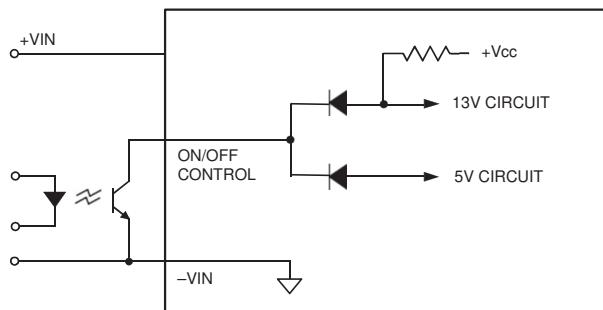

Figure 5. Driving the Negative Logic On/Off Control Pin
**Negative** ("N" suffix) logic devices are off when the On/Off pin is left open or is pulled high (see specifications), and on when the pin is pulled low with respect to the –Input as per Figure 5. See specifications.